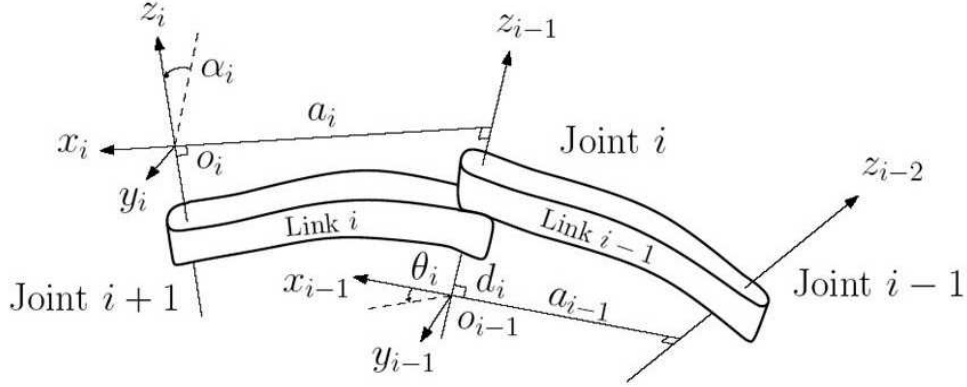

Figure 1: Relationship of joints and links on a robot mechanism
- A robot is a series of *links* and *joints*, which creates a *kinematic chain*. Each link connects 2 adjacent joints, and each joint connects 2 adjacent links (see figure 1.)
- When joint i is actuated, the link i and its entire frame experience a resulting motion. Figure 1 shows a more general way to analyze the relationship between links and joints. Figure 2 shows some frames attached to a 3-link manipulator.